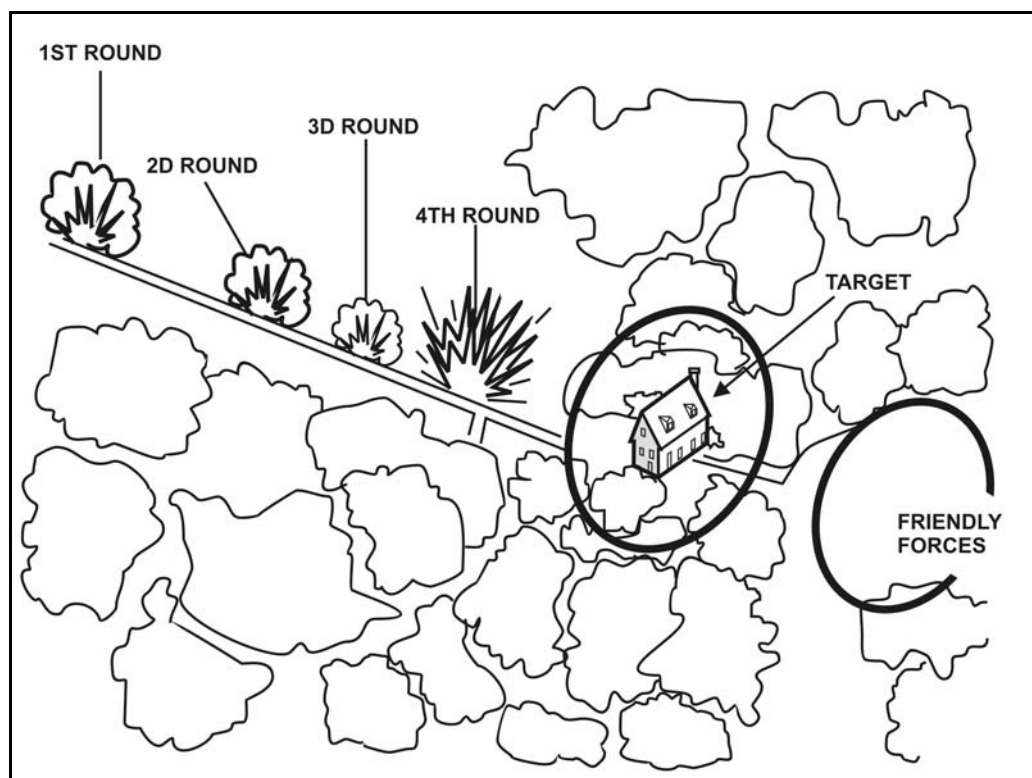

Figure 8-13. Creeping method of adjustment.
(4) **Creeping Method.** In danger-close situations the observer uses the creeping method of adjustment. The observer calls for the first round, deliberately overshooting the target. He adjusts rounds in 100-meter increments or less until the fire hits the target (Figure 8-13). This method requires more time and ammunition than other methods; therefore, the observer uses it only when he must consider safety first.